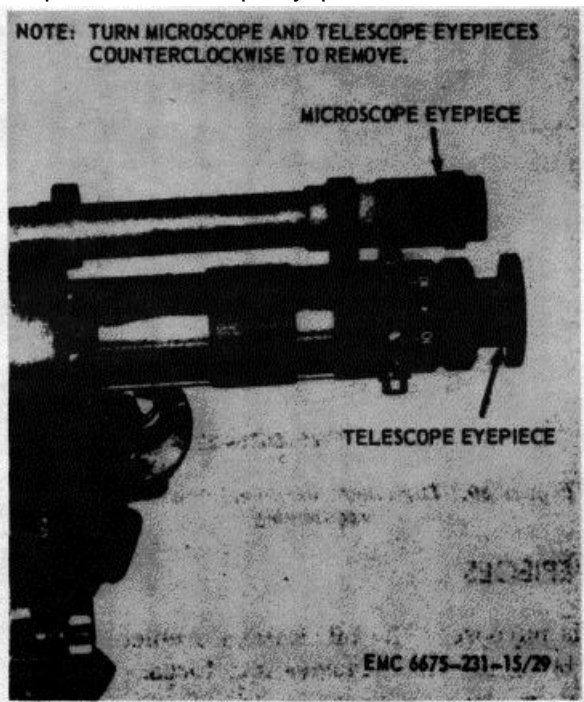

Figure 31. Telescope and microscope eyepieces, removal and installation.
a. *Removal.* Refer to figure 31 and remove the telescope and microscope eyepieces.
- (1) Carefully clean the metal parts of the telescope and microscope eyepieces with a clean, dry cloth.
- (2) Remove dust or dirt from the lenses with a soft brush, lense tissue, or an approved cleaning solvent.
- (3) Inspect the eyepieces for worn or damaged threads, bent or broken metal parts, and chipped, cracked, or etched lenses. Replace defective eyepieces.
c. *Installation.* Refer to figure 31 and install the telescope and microscope eyepieces.